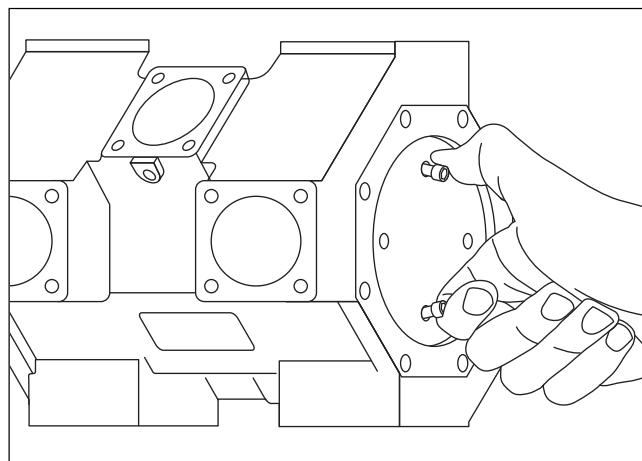

Figure 5.3
3. Loosen the piston cap screws and remove the piston cap as shown in figure 5.3 by pinching two loose screws together.
3. Remove the piston cap and shims by loosening and removing the piston cap screws holding the piston cap to the piston. Re-insert two loose screws as shown in figure 5.3. Using fingers, pinch the screws together and pull the piston cap out of the cylinder.